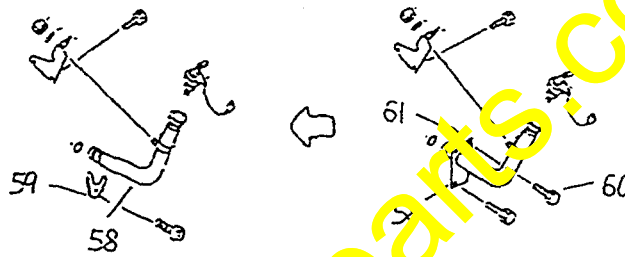

Fig. 51
- ⑱ Change of oil filler on HD785-3 (Fig. 51)